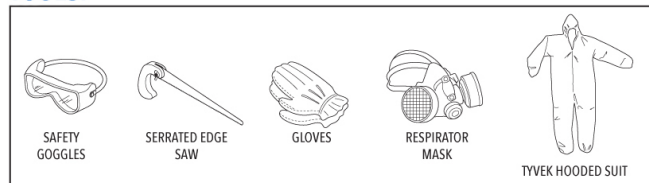

FIG. 1:
2) Apply Foam it Green to achieve a cured thickness of one inch, making sure the foam is applied to the joints connecting the studs to the substrate. (*Fig. 1*)